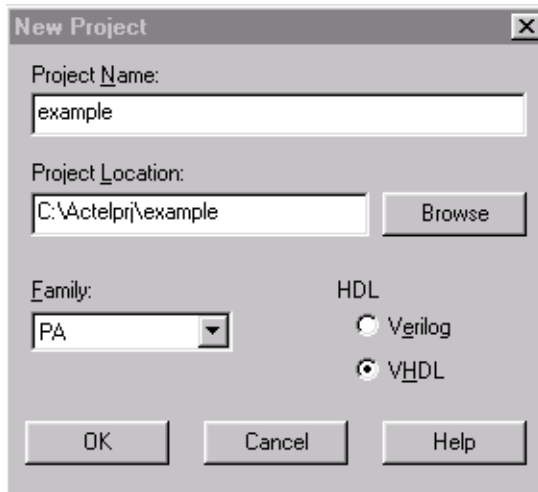

Figure 5-1. New Project Dialog Box
2. From the File menu, select *New Project*. The New Project dialog box is displayed, as shown in Figure 5-1.